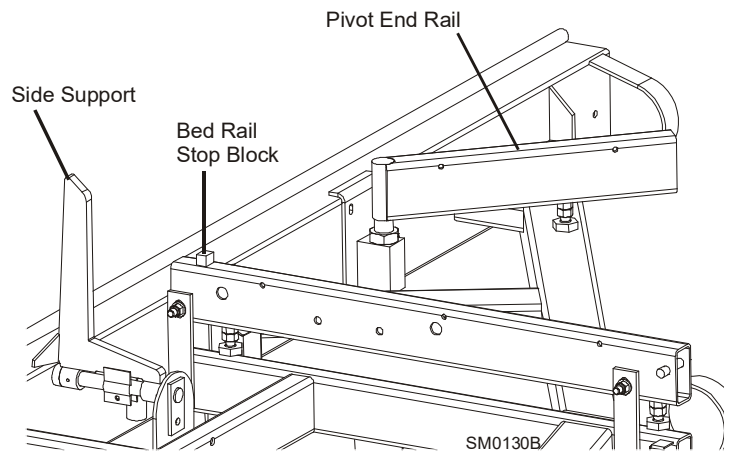

FIG. 3-5
12. Raise the two side supports to prevent the log from falling off the side of the mill when loaded. See Fig. 3-5.